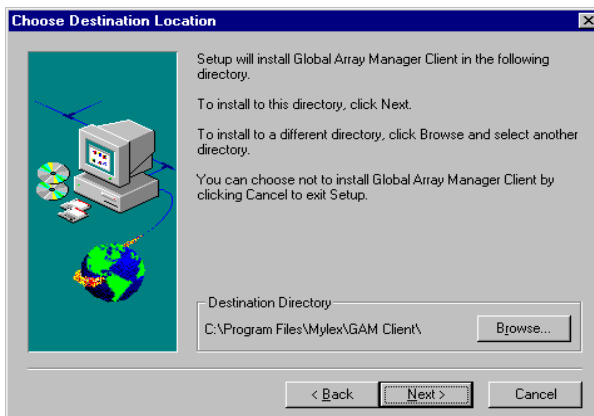

Figure 2-6. Destination Path for Global Array Manager
9. In the Destination Directory area in Figure 2-6, the suggested directory path for installation of GAM Client reads: